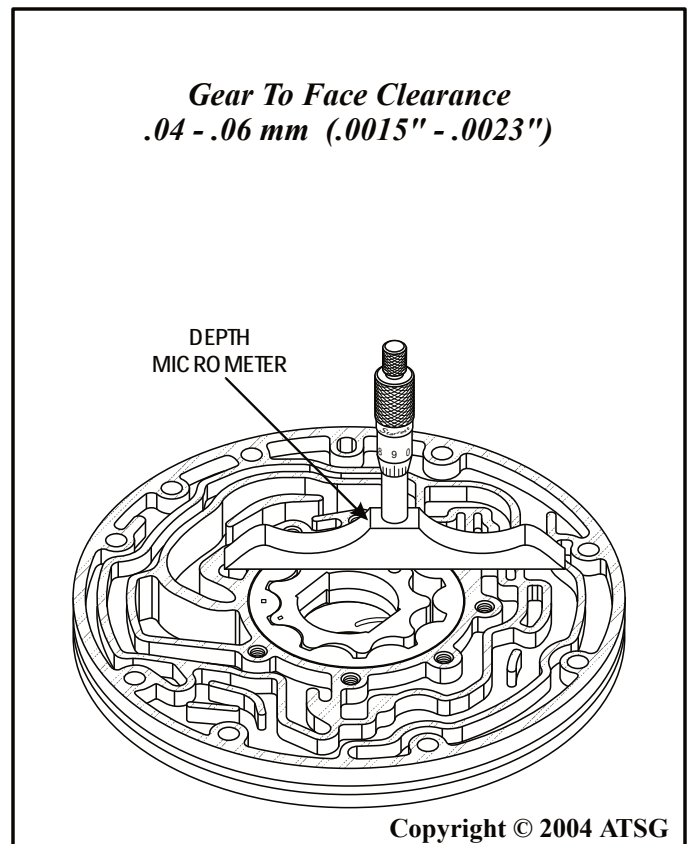

Figure 84
8. Measure the gear to face clearance with the depth micrometer, as shown in Figure 84.
.04-.06 mm (.0015"-.0023") (See Figure 84).